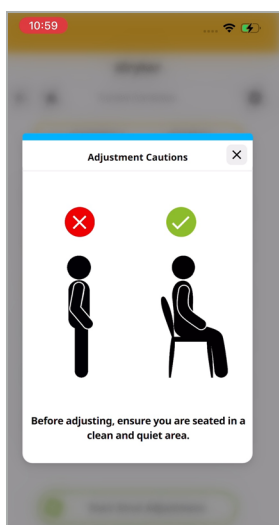

Figure 47
- Review and accept the Adjustment Cautions notification by selecting the “X” in the upper right corner, which will close the dialogue box. **(Figure 47)** This notification reminds the patient to be positioned comfortably and non-weight-bearing before initiating a correction.